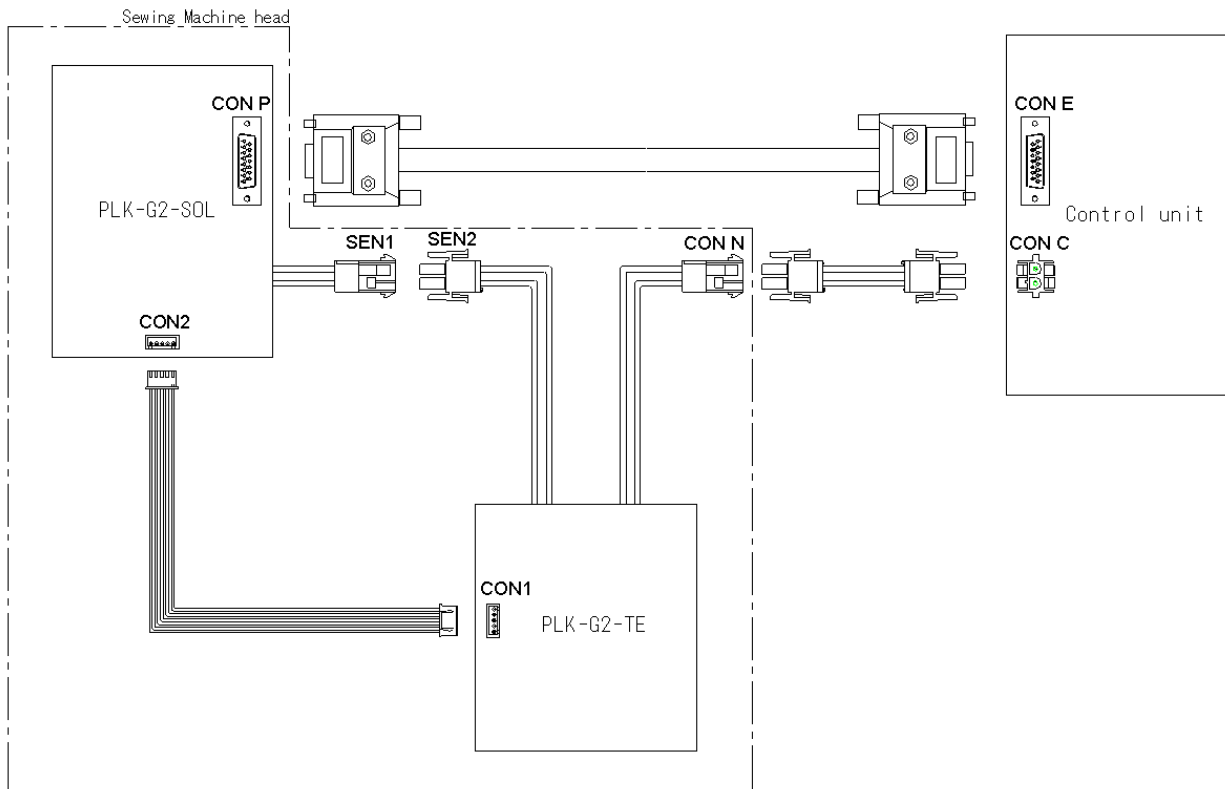

Fig.2
- (6) Remove the two hexagon socket head cap screws shown in Figure 2.
- (9) Attach the connector "CON N" on the I/O Expansion Unit shown in Figure 2 to the Fig.No.102 connector mounting plate.